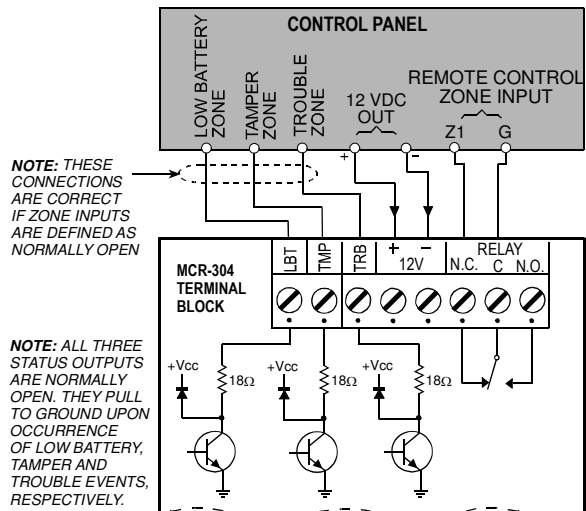

Figure 5. General Wiring Diagram
- B. If you wish to separate between status alerts, connect each status output of the MCR-304 (**TAMP**, **LBT** and **TRB**) to a separate zone input of the control panel, as shown in Figure 5.